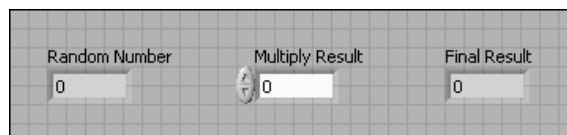

Figure 2.35
1. Select File»Open and navigate to C:\Exercises\LabVIEW Basics I to open the Debug Exercise (Main) VI. The front panel shown in Figure 2.35 appears.